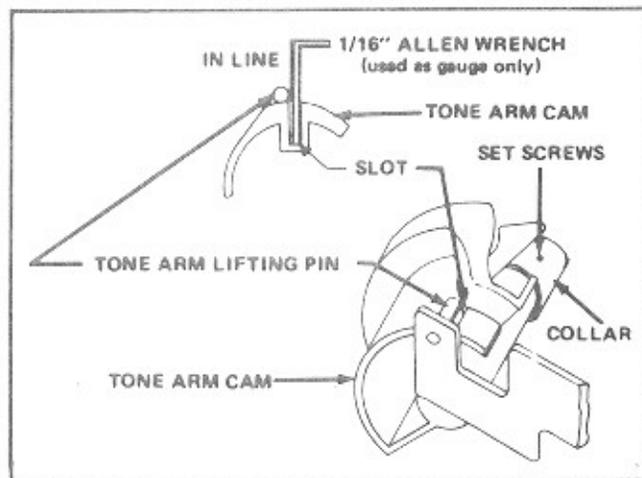

Figure 3-13. Tone Arm Cam Position
5. Position tone arm cam so that the outside diameter of the tone arm lifting pin is in line with the edge of the slot in the cam, as shown in Figure 3-13.